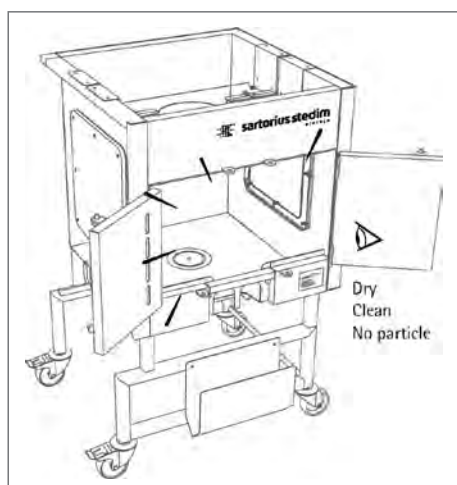

Figure 42
1. Before proceeding to the Flexel® Bag for LevMixer® installation in the Palletank®, check that the internal surfaces of the Palletank® are smooth, free of any particles that might damage the bag surface and dry (see Fig. 42). Traces of cleaning agents left on the Palletank® can potentially damage the bag.